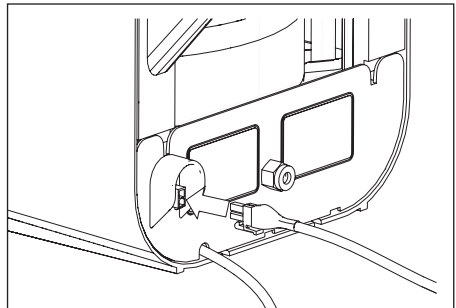

Fig. 7.4 Connecting wire to boiler connector
9. Connect the wire from the HotSpot 3-in-1 tap to the connector at the rear of the boiler (hook downwards) (see fig 7.4).